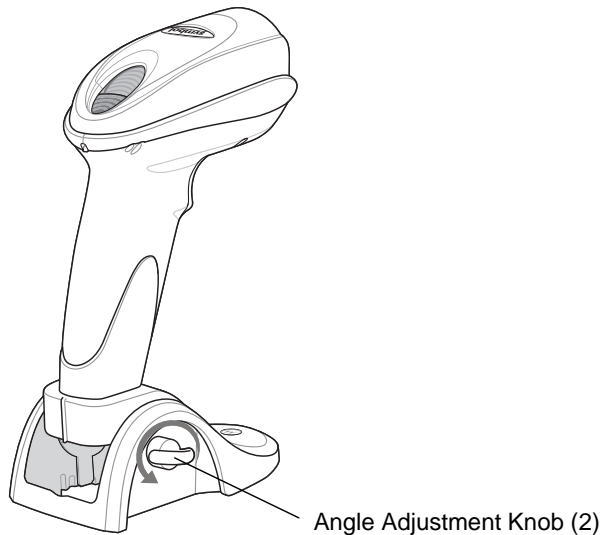

Figure 1-6 Adjust the Scanner for Cable Installation
1. Turn both angle adjustment knobs left to loosen the scanner in the base. See Figure 1-6.